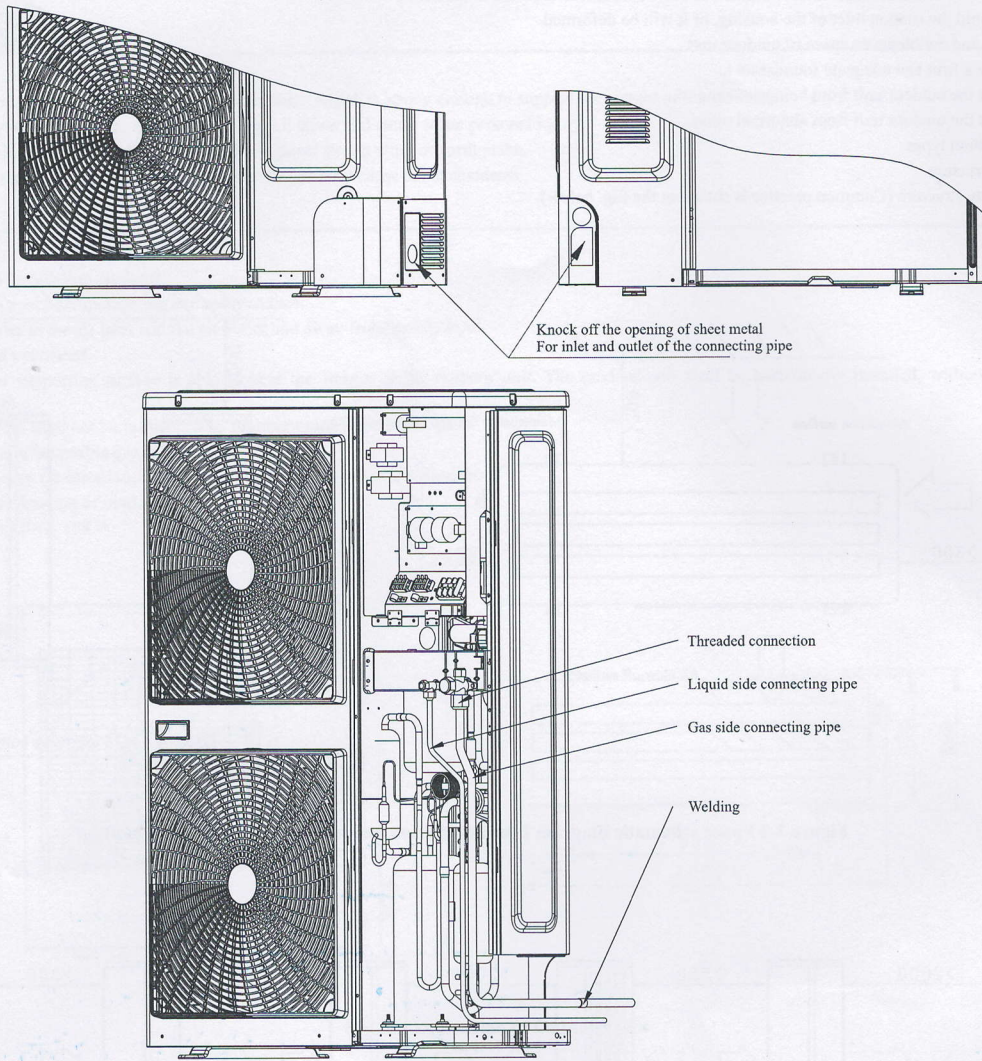

Fig. 3-5 Schematic Diagram for Connecting Pipe of Outdoor Unit
- 2) 12. 5KW, 14KW, 16KW and 18KW use the connecting pipes to get in and out through the knock-off hole of sheet metal (as shown in Fig. 3-5).